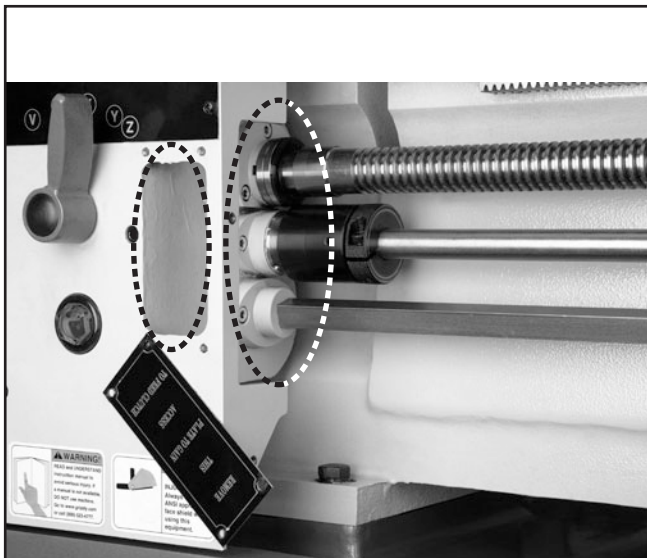

Figure 118. Feed access cover locations.
2. Remove the phillips head screws and the front/side feed access covers (**Figure 118**).